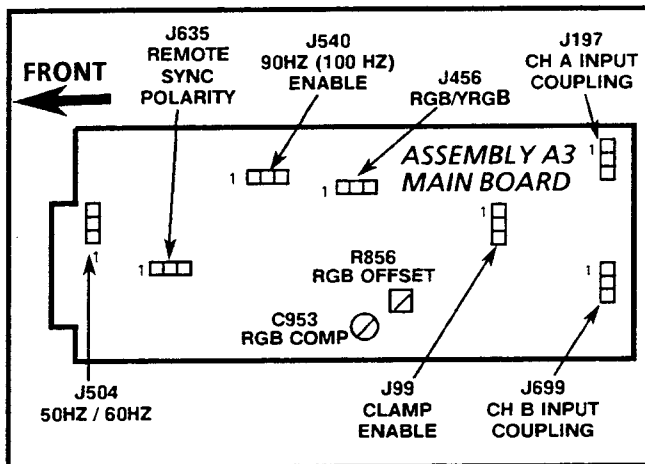

Fig. 3-3. Plug jumper locations and rgb adjustments. Pin 1 is denoted by a small numeral 1 next to the plug jumper symbol.
Not all installations are identical. In order to make operation of the 1730-Series Waveform Monitor as flexible as possible there are internal jumpers that can be changed to provide operating flexibility. For example, it is possible to select either the 3-step or 4-step parade to accommodate RGB or YRGB displays. With the exception of the 50-60 Hz jumper, the factory preset position is indicated by a box printed on the etched circuit board. Table 3-1 details these internal jumper selections. Be sure that all operators are aware of changes, to prevent unnecessary trouble reports, if any of these jumpers are placed in the optional position. See Fig. 3-3 for location of the internal plug jumpers.
Television cameras vary in output dc level; R856 is provided to compensate for this variation in dc level. See Fig. 3-3.
C953 is the input compensation that matches the Staircase Amplifier input time constant to the camera output time constant. See Fig. 3-3.
5. ADJUST — R856 to center the RGB signal on the graticule. See Fig. 3-3 for its location.